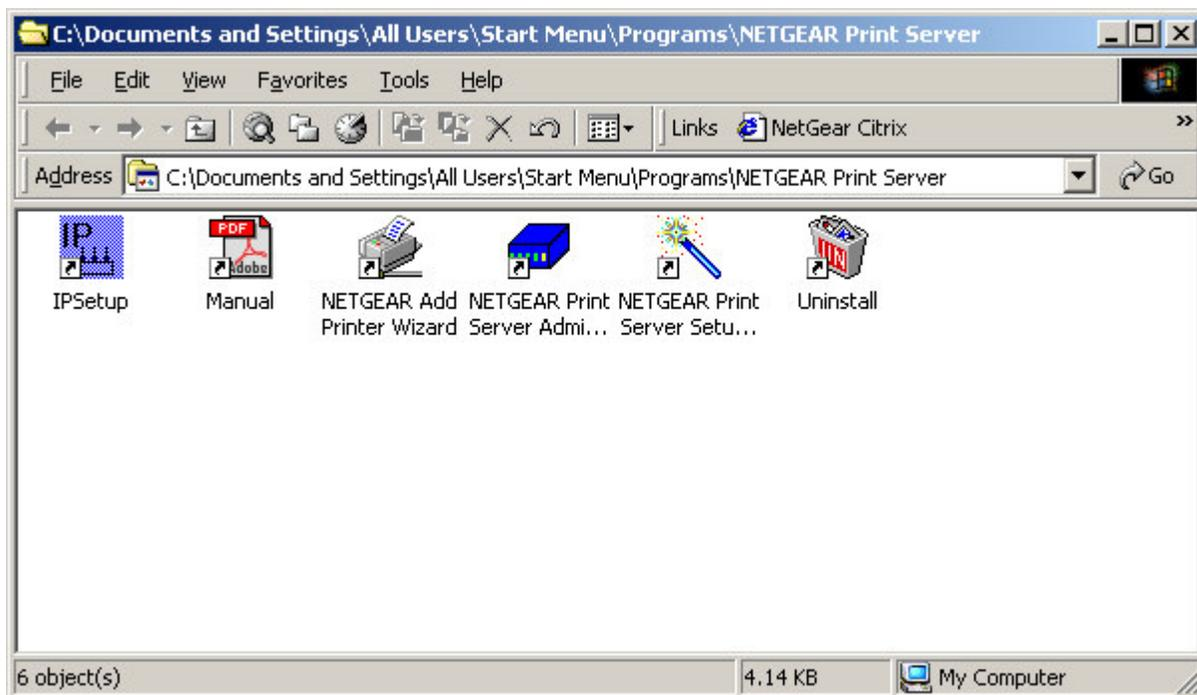

Figure 4-8 NETGEAR Print Server
1. Double-click on the desktop icon, as showing Figure 4-8, that you named the group in the previous section, Figure 4-5.